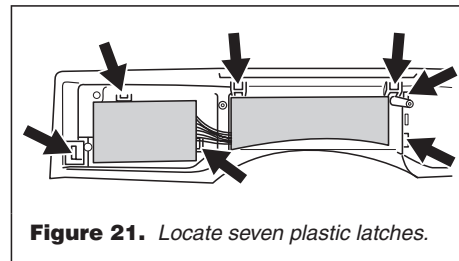

Figure 21. Locate seven plastic latches.
3. The console electronics and housing assembly is held to the decorative piece by seven plastic latches. See figure 21.